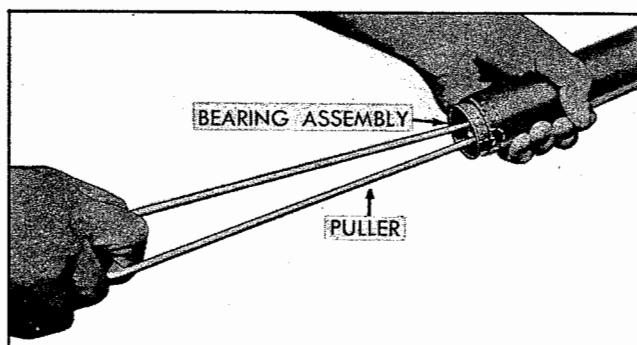

Figure 4—Upper Column Bearing Removal
3. Remove horn contact and cable assembly (7) from upper steering column. Remove upper column bearing assembly (38), using suitable tool in manner illustrated in figure 4.
5. Remove four nuts, lock washers, and plain washers from studs attaching lower steering column housing (21) to bevel gear housing (35). Remove lower steering column and housing assembly (21) from lower steering shaft. Remove lower column bearing assembly (19), using suitable tool in manner illustrated in figure 4.
6. Lift shim pack (36) and gasket, used between lower column housing and bevel gear housing, and tag for identification at assembly.